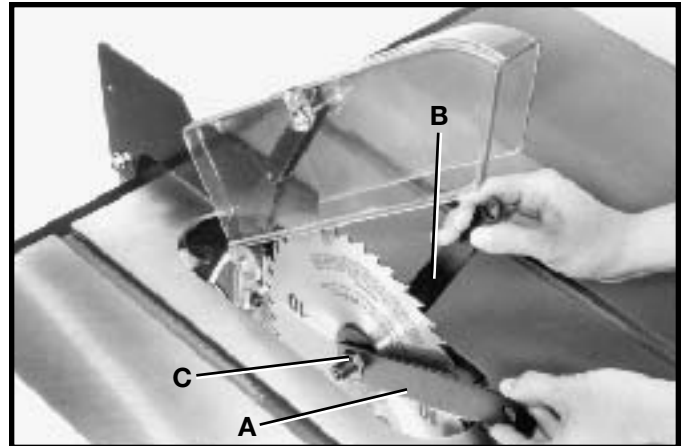

Fig. 71
4. Place the open end wrench (B) Fig. 71, on the flats of the saw arbor to keep the arbor from turning, and using wrench (A), turn the arbor nut (C) toward the front of the saw. Remove arbor nut, blade flange and saw blade.
5. Assemble the new blade, making certain the teeth are pointing down at the front of the saw table and assemble outside blade flange and arbor nut. With wrench (B) Fig. 71, on the flats of the arbor to keep it from turning, tighten arbor nut by turning wrench (A) counterclockwise.